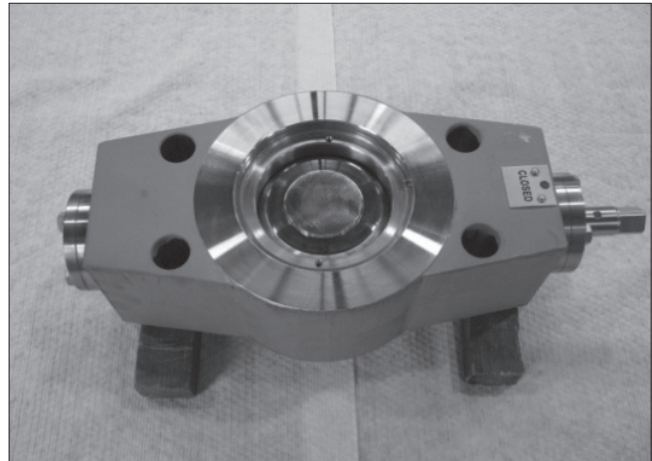

Fig. 25 Disc in 0°-position
1. Dismount the valve in the 0°-position (closed, see fig. 25)